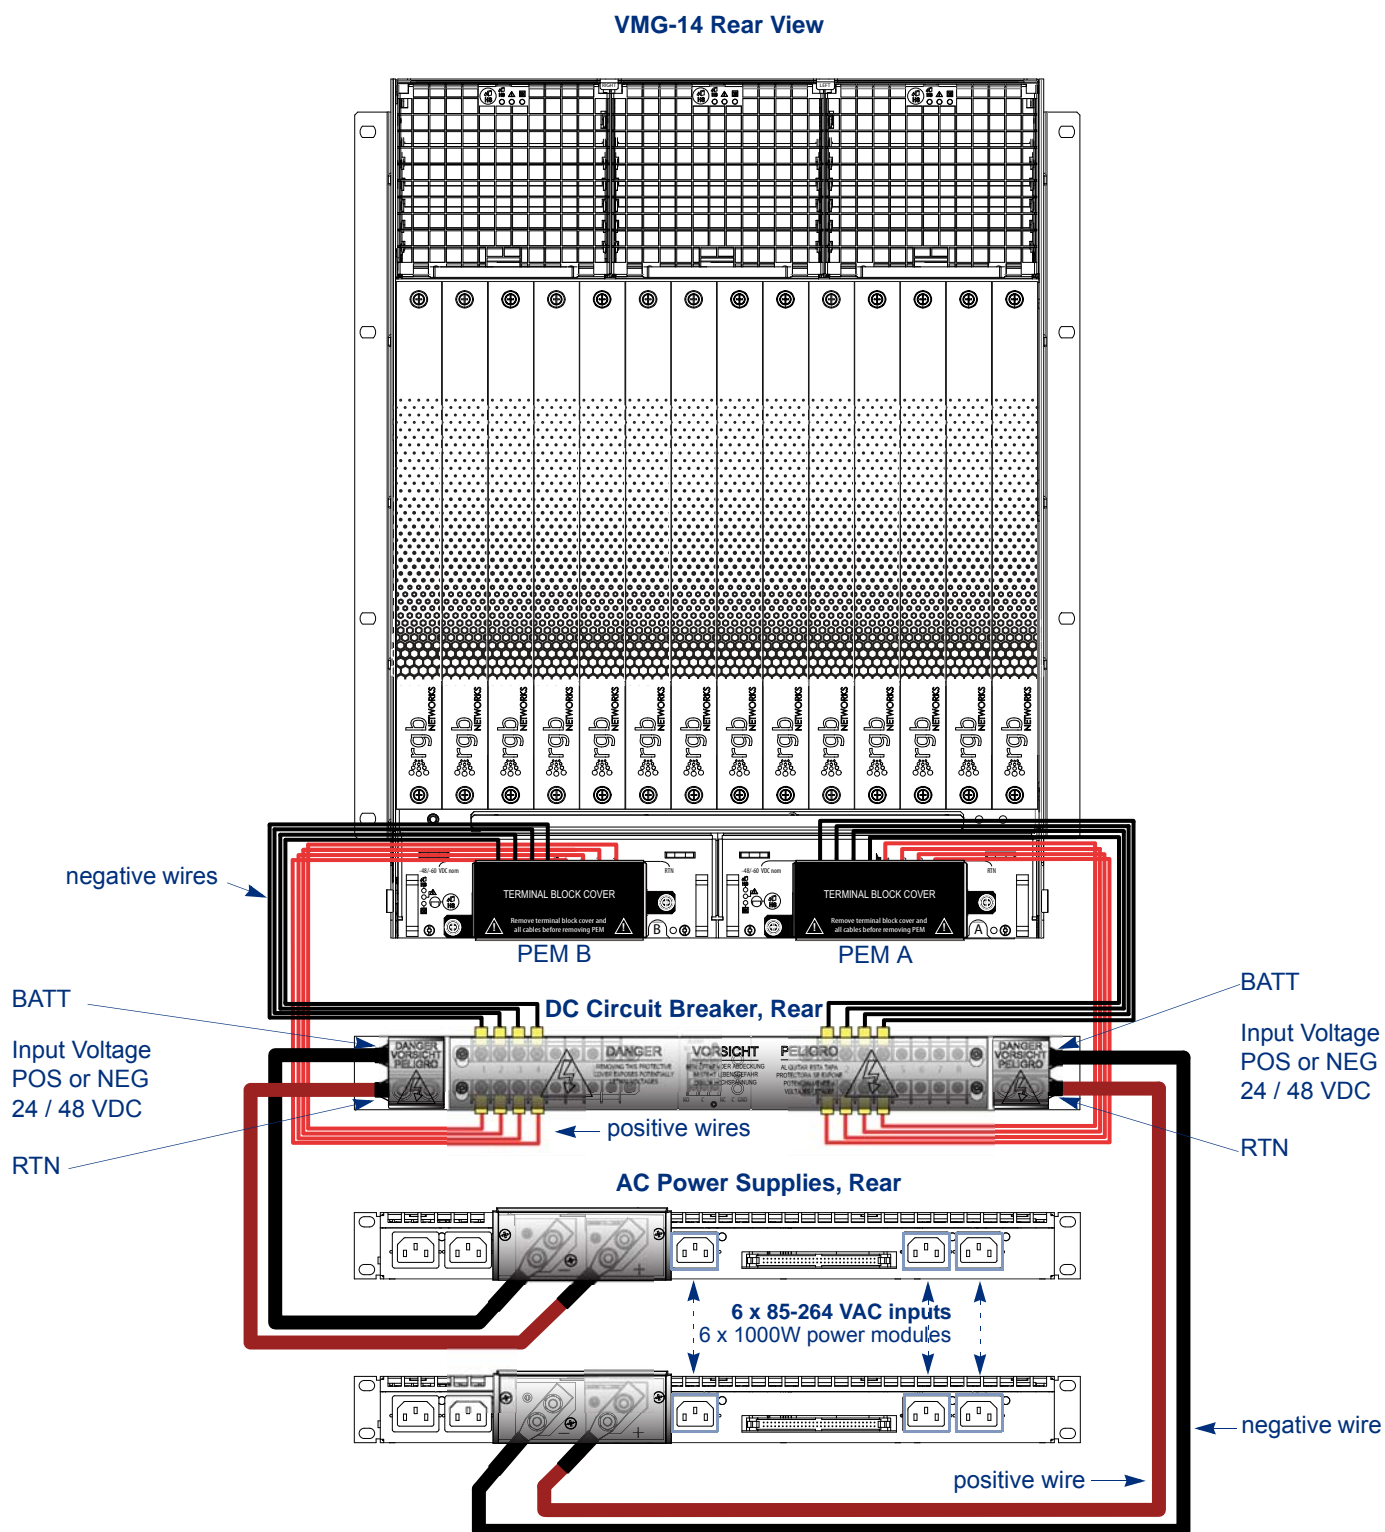

Figure 2. VMG-14 with AC Power Supplies - Full Redundancy
2. Full redundancy with dual PEMs, dual AC power supply chassis, and one circuit breaker (Figure 2).
Figure 2 shows a diagram of the Full redundancy solution.